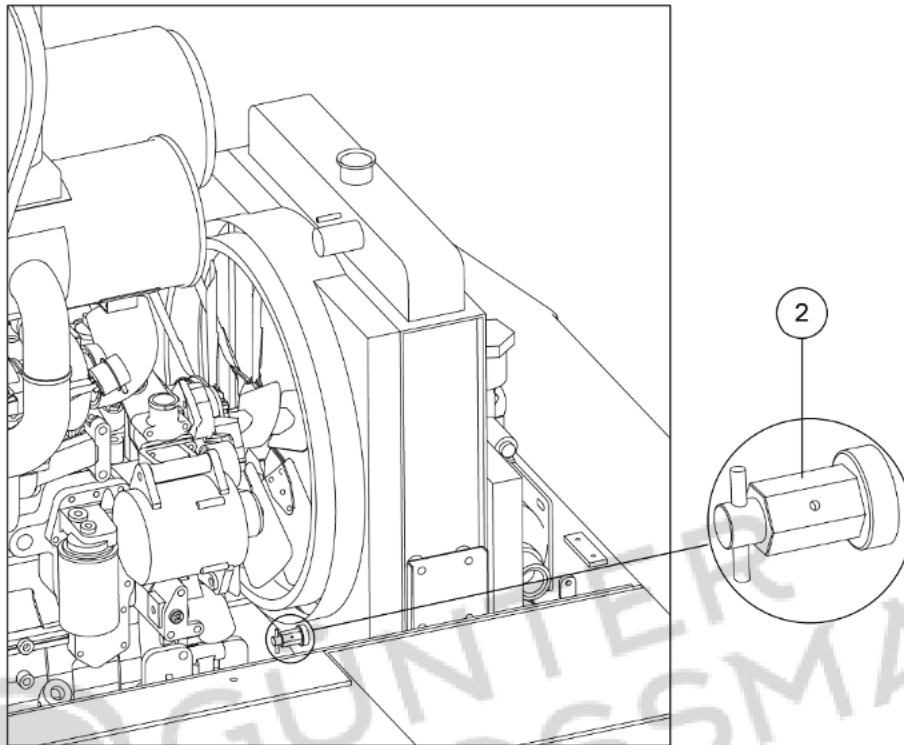

Figure 6-38 Water tank drain point
(1) Cap
Step 4: The coolant drain point is at the lower left corner of the radiator, open the drain valve (2) to drain the old coolant into container, as shown in Figure 6-38;